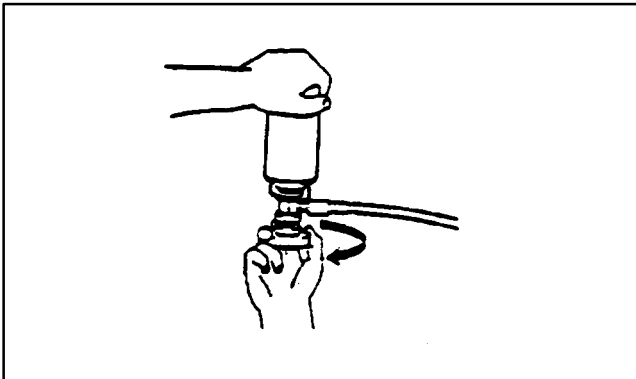

Figure 9
- (6) Turn the service can valve handle counterclockwise to open the refrigerant oil charge can. **(Figure 9)**